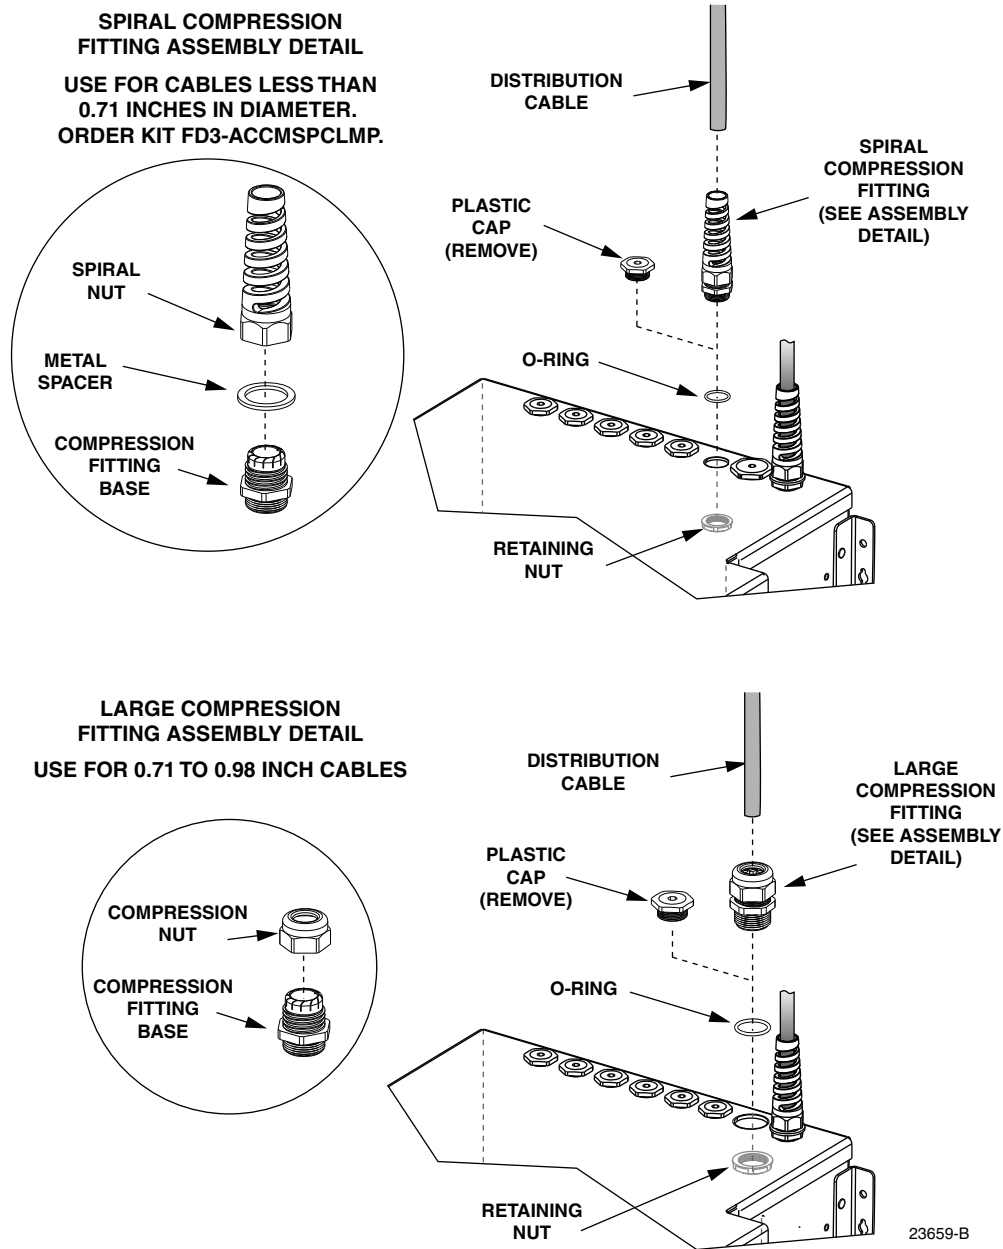

Figure 30. Plastic Cap Removal and Compression Fitting Installation
3. Remove the plastic cap and retaining nut from the selected cable entry/exit hole as shown in Figure 30. Save the retaining nut for reuse.
4. Select the compression fitting that will be used to secure the distribution cable to the cabinet and then loosely assemble (see Figure 30) the compression fitting components.